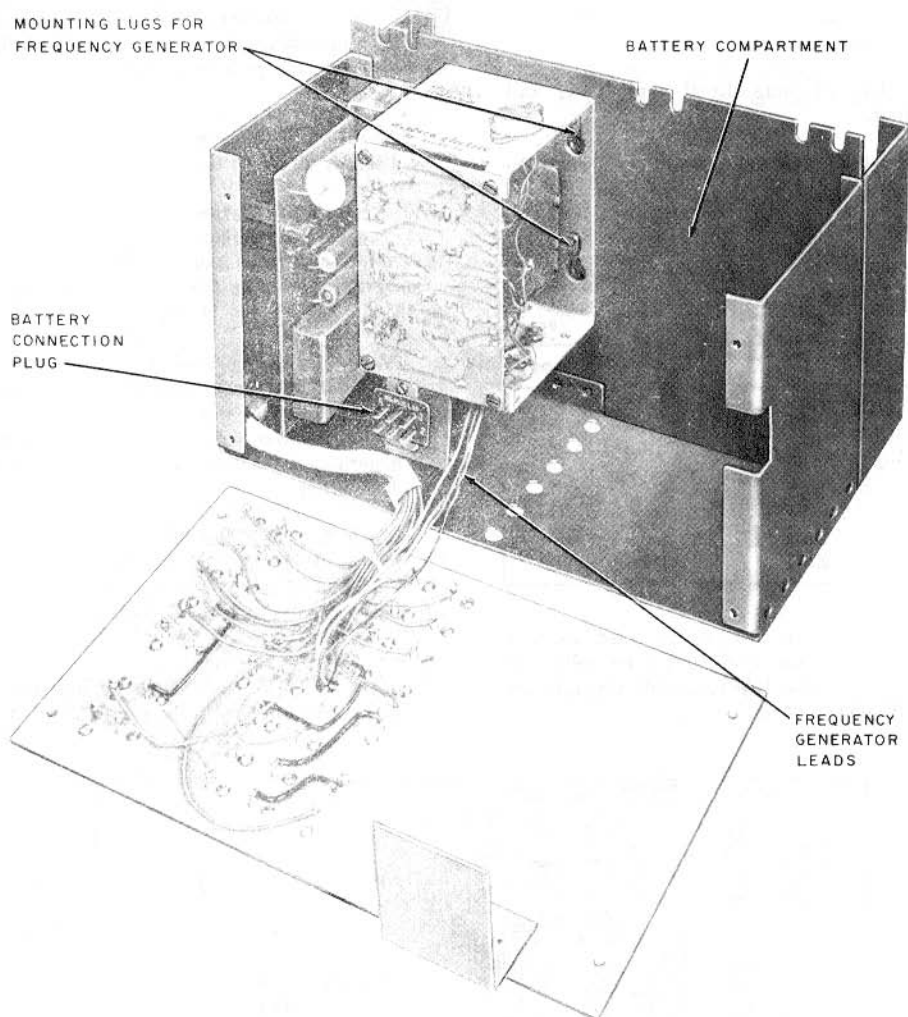

Fig. 2—47C Power Unit (Front Cover Removed)
2.04 The front panel, containing all the power terminations and fuses, is not hinged but may be swung down for easy access to the plug-in battery package (KS-20390 L1), the GL-1 circuit pack (printed circuit card containing the control circuits), and the optional 116A frequency generator (a dc operated ringing generator). See Fig. 2.